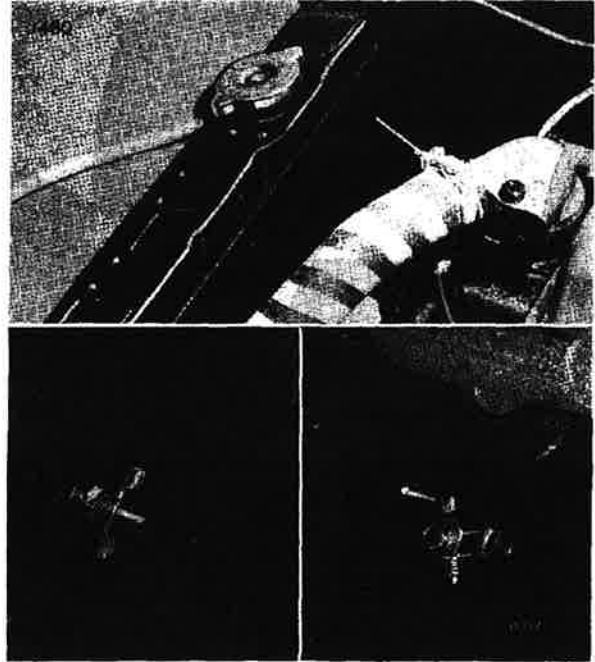

Fig. 35 (left) Fig. 36 (upper) Fig. 37 (right)
To drain the system, move the heat control (22) Fig. 2, to the hot position, remove the radiator filler cap (Fig. 36) and open the tap at the rear right-hand side of the cylinder block (Fig. 37) and the tap at the bottom of the radiator (Fig. 35).